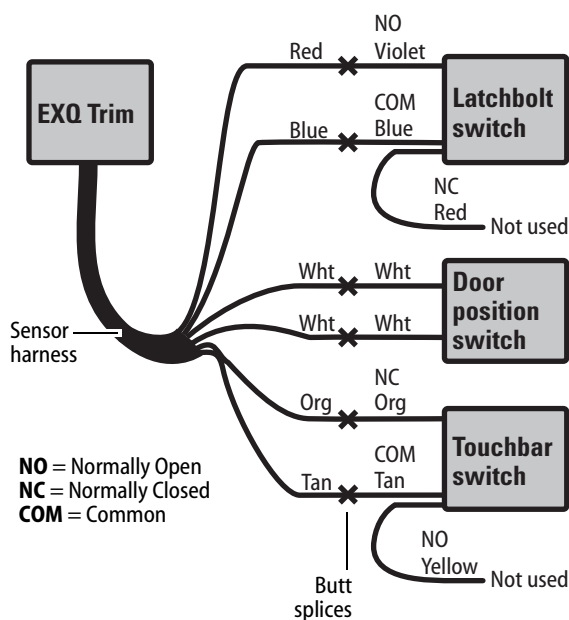
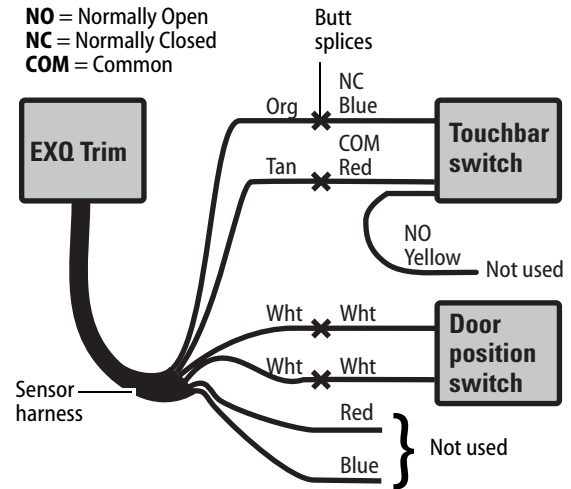

Figure 24 Schematic diagram for connecting Precision sensor harness wires
Figure 25 Schematic diagram for connecting Von Duprin sensor harness wires
- 4 Make wire connections as detailed in Figure 24 or Figure 25 using the butt-splices (provided).